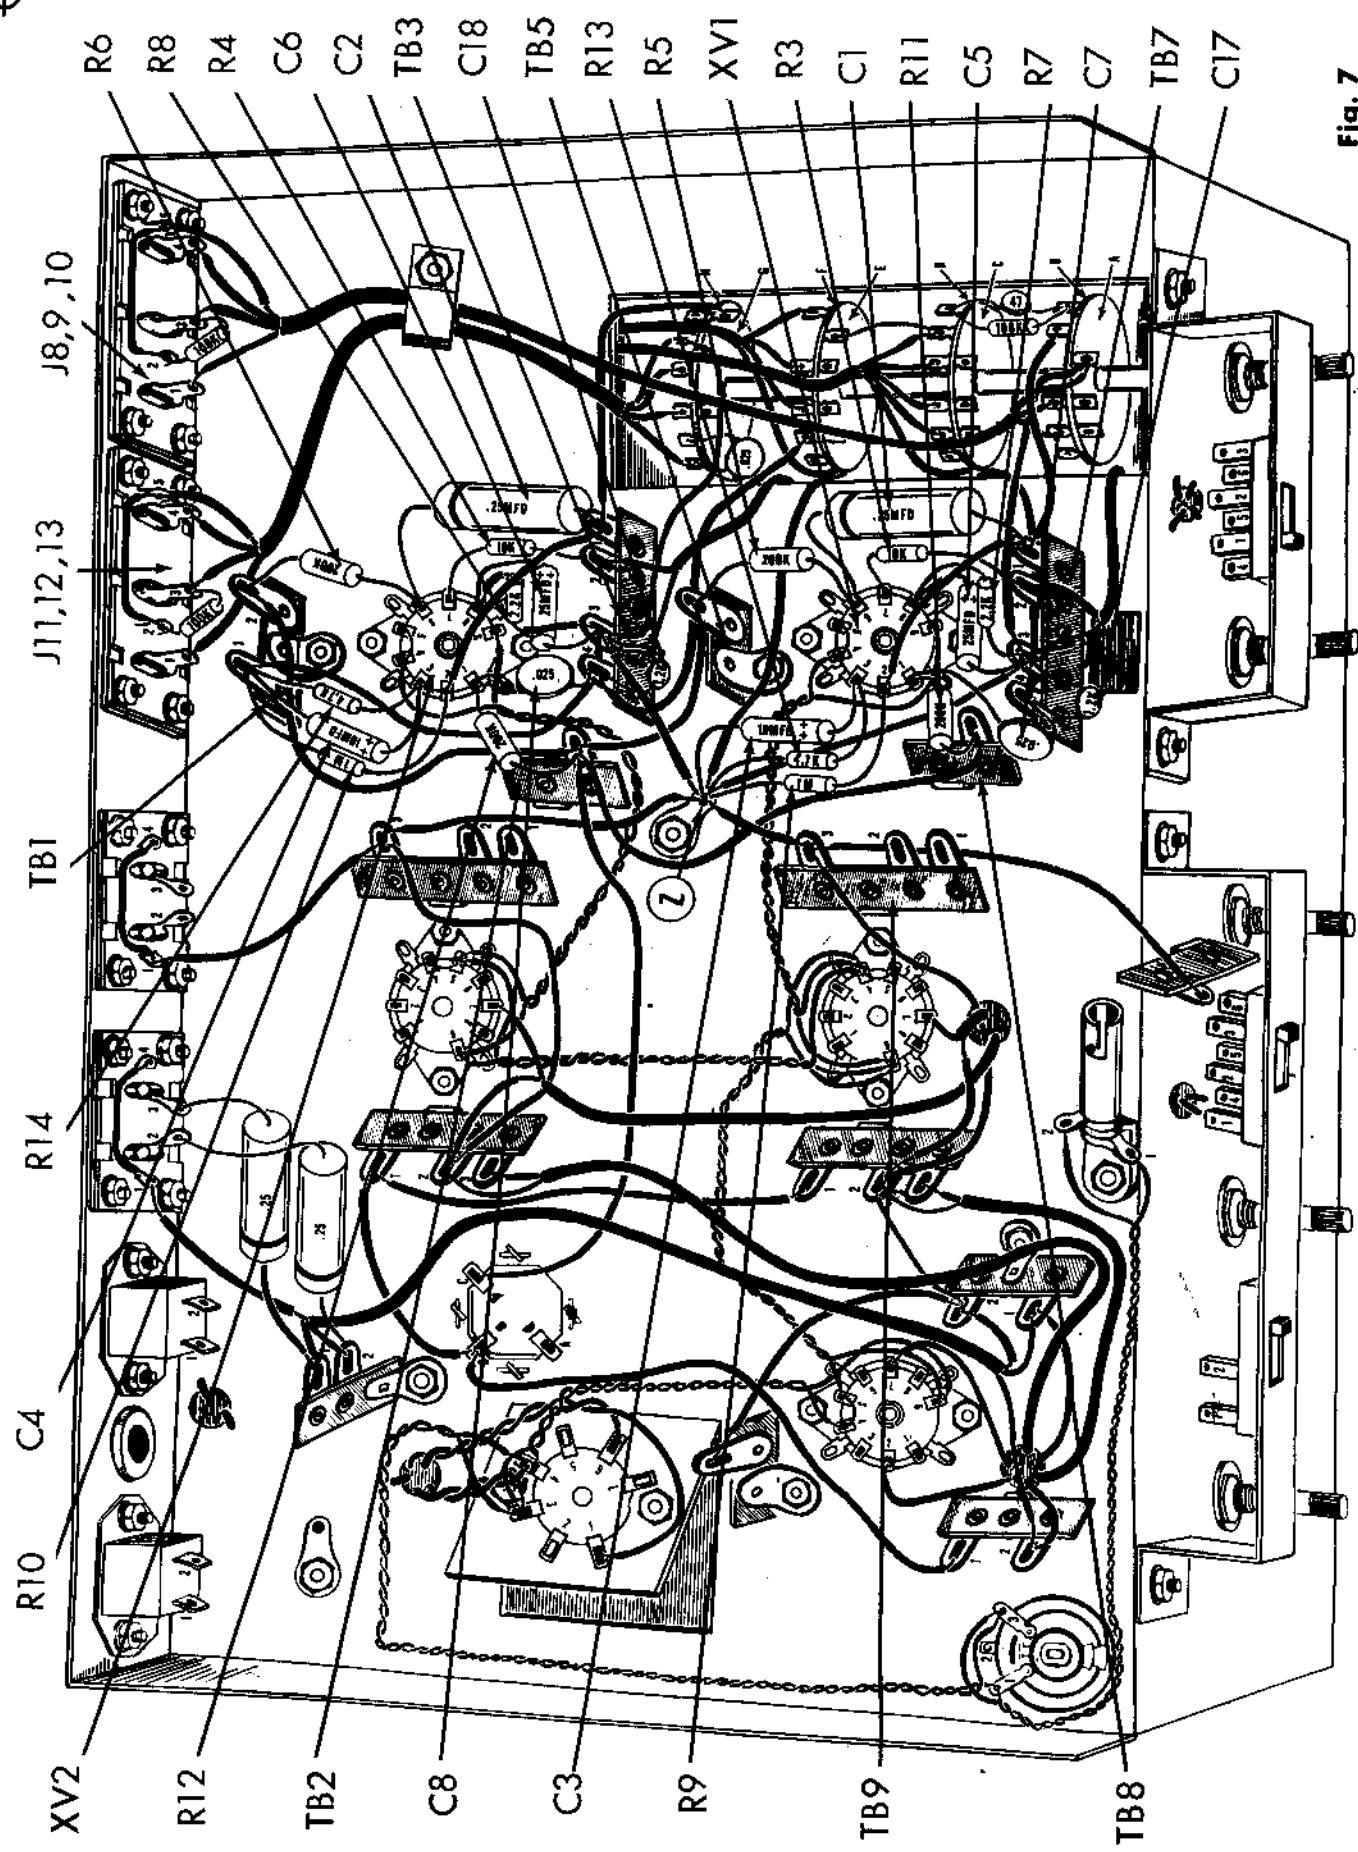

Fig. 7
- ✓ 1. (X) Fig. 7. Connect the inner conductor from the shielded wire (from wafer "G" on S1) to TB3-2 (C). Connect the shield strands to TB3-3 (C).
- ✓ 2. (X) Fig. 7. Connect the brown lead from wafer "D" on switch, S1 to TB7-4 (C).
- ✓ 3. (X) Fig. 7. Connect the inner conductor from the shielded wire (from wafer "B" on S1) to TB7-2 (C) and the shield strands to TB7-3 (C).
- ✓ 4. (X) Fig. 7. Run the three conductor cable from wafer "H" of switch S1, under the cable clamp and along the chassis as shown. Connect the red lead to J11, 12, 13-3 (S2), the brown lead to J11, 12, 13-1 (S1), the orange lead to J11, 12, 13-4 (S1) and the spaghetti covered shield strands to J11, 12, 13-5 (S2).
- ✓ 5. (X) Fig. 7. Run the three conductor shielded cable from wafer "A" and "B" of switch S1, under the cable clamp and along the chassis as shown. Tighten the screw holding the cable clamp. Connect the spaghetti covered shield strands to J8, 9, 10-5 (S2), the orange lead to J8, 9, 10-4 (S1), the red lead to J8, 9, 10-3 (S2) and the brown lead to J8, 9, 10-1 (S1).
- ✓ 6. (X) Fig. 7. Connect the black lead from wafer "A" on input selector switch, S1 to TB7-3 (C).
- ✓ 7. (X) Fig. 7. Connect the grey lead from wafer "B" on switch S1 to TB7-1 (C).
- ✓ 8. (X) Fig. 7. Connect a 2" piece of black wire from TB3-3 (C) to ground lug "Z" (C).
- ✓ 9. (X) Fig. 7. Connect a 1 1/2" piece of black wire from TB9-3 (C) to ground lug "Z" (C).
- ✓ 10. (X) Fig. 7. Cut all leads on four 200K $\Omega$  (red, black, yellow, gold) 5% resistors, R5, 6, 11 and 12 to 1/2". Connect R5 from XV1-6 (C) to TB5 (S2), R6 from XV2-6 (C) to TB1-2 (S2), R11 from XV1-1 (C) to TB8 (S2) and R12 from XV2-1 (C) to TB2 (S5).
- ✓ 11. (X) Fig. 7. Cut all leads on two 25mfd, 6 volt electrolytic capacitors, C5 and C6, to 3/4". Cover all leads with a 1/2" piece of spaghetti. Connect the positive (+) end of C5 to XV1-8 (C) and the negative (-) end to TB7-3 (C). Connect the positive (+) end of C6 to XV2-8 (C) and the negative (-) end to TB3-3 (C).
- ✓ 12. (X) Fig. 7. Cut all leads on two 2.2K $\Omega$  (red, red, red, silver) resistors, R7 and R8, to 3/4". Cover each lead with a 1/2" piece of spaghetti. Connect R7 from XV1-8 (S2) to TB7-3 (C) and R8 from XV2-8 (S2) to TB3-3 (C).
- ✓ 13. (X) Fig. 7. Cut one lead on each of two 10K $\Omega$  (brown, black, orange, silver) resistors, R3 and R4, to 1" and the second lead on each resistor to 1/2". Connect the shorter lead of R3 to XV1-7 (S2) and the longer lead to TB7-2 (C). Connect the shorter lead of R4 to XV2-7 (S2) and the longer lead to TB3-2 (C).
- ✓ 14. (X) Fig. 7. Cut all leads on two .25mfd (red, green, yellow, white, red) 200 volt paper capacitors, C1 and C2, to 1/2". Connect C1 from XV1-6 (S2) to TB7-1 (C) and C2 from XV2-6 (S2) to TB3-1 (C).
- ✓ 15. (X) Fig. 7. Cut all leads on two 10mfd, 6 volt electrolytic capacitors, C3 and C4, to 1/2". Connect the positive (+) end of C3 to XV1-3 (S2) to ground lug "Z" (C) and the negative (-) end to ground lug "Z" (C). Connect the positive (+) end of C4 to XV2-3 (C) and the negative (-) end to TB1-1 (C).
- ✓ 16. (X) Fig. 7. Cut all leads on two 4.7K $\Omega$  (yellow, violet, red, silver) resistors, R13 and R14, to 3/4". Connect R13 from XV1-3 (S2) to ground lug "Z" (C) and R14 from XV2-3 (S2) to TB1-1 (C).
- ✓ 17. (X) Fig. 7. Cut all leads on two 1M $\Omega$  (brown, black, green, silver) resistors, R9 and R10 to 3/4". Connect R9 from XV1-2 (C) to ground lug "Z" (S8) and R10 from XV2-2 (C) to TB1-1 (S4).
- ✓ 18. (X) Fig. 7. Connect a 2 1/4" piece of green wire from XV1-2 (S2) to TB7-1 (S3).
- ✓ 19. (X) Fig. 7. Connect a 2 1/4" piece of green wire from XV2-2 (S2) to TB3-1 (S3).
- ✓ 20. (X) Fig. 7. Cut all leads on two .025mfd (25K or 25,000 mmf) disc capacitors, C7 and C8, to 3/4". Connect C7 from XV1-1 (S2) to TB7-4 (S3) and from XV2-1 (S2) to TB3-4 (C).
- ✓ 21. (X) Fig. 7. Cut all leads on two .0012mfd (1.2K or 1200 mmf) disc capacitors, C17 and C18, to 1/2". Connect C17 from TB7-3 (C) to TB7-4 (S3) and C18 from TB3-4 (S3) to TB3-3 (C).